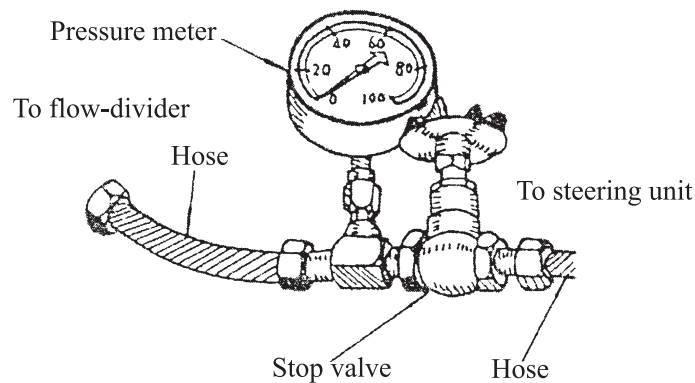

Fig.6-4 Measure pressure
(5) To measure hydraulic pressure, use the pressure gauge (15-20MPa), stop valve and hoses connected as shown in fig. 6-4.